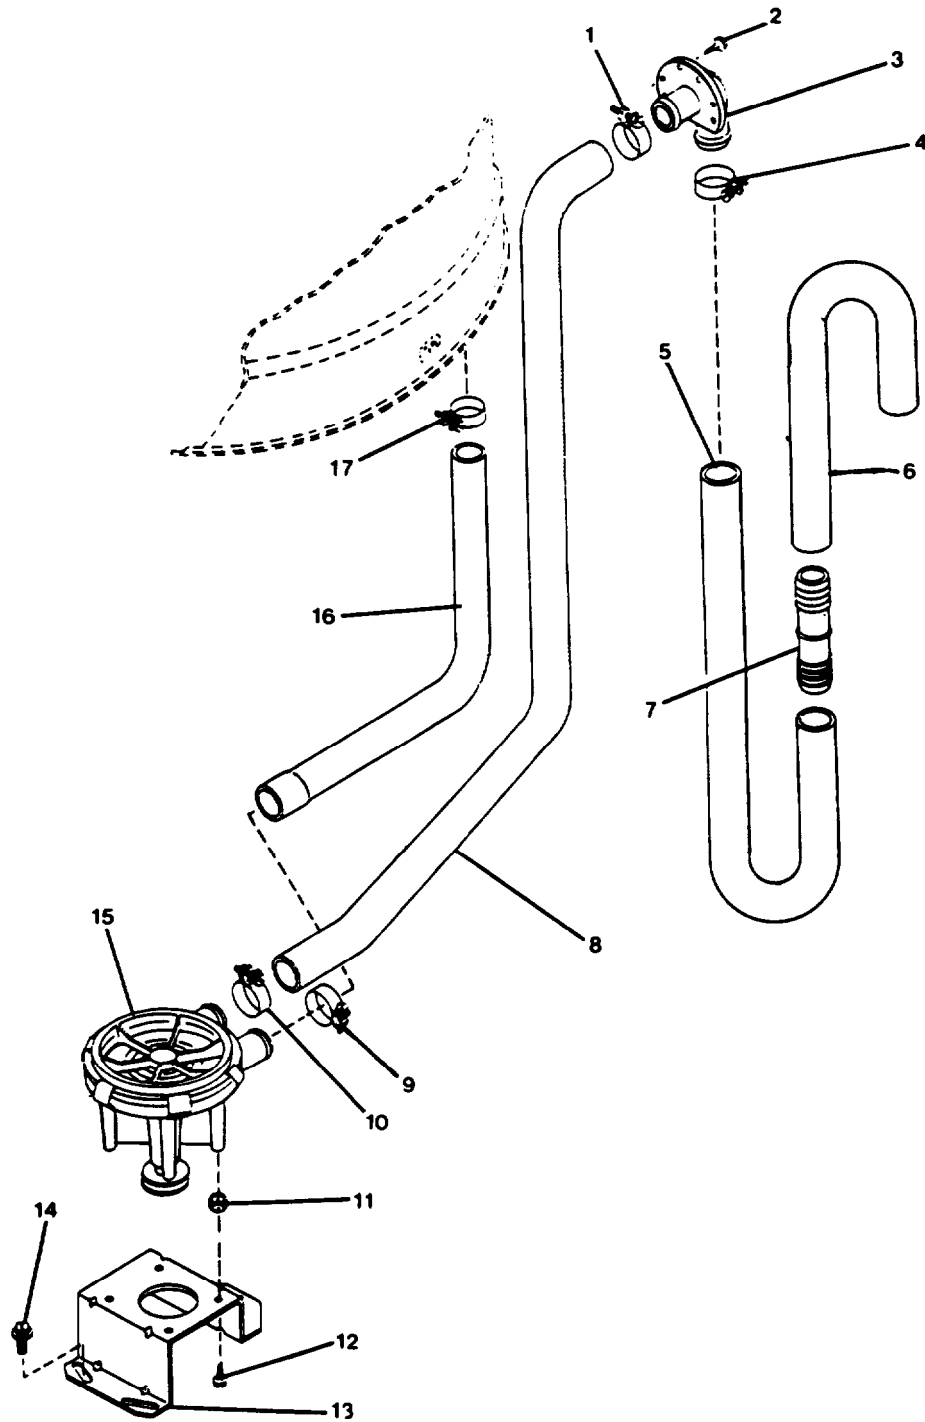

FIGURE 2-73. Washer Machine Pump and Hoses.
- u. Install centering spring (9) to notch on outer tub marked during removal.
- v. Install performed hose (16, FIGURE 2-73) with hose clamp (17, 9).
2-87. Replace Washer Machine Pump and Bores Group. (FIGURE 2-73)
- (1) Loosen two front pump mounting screws (14, FIGURE 2-73), then loosen rear mounting screw.
- (2) Shift front of pump mounting bracket (13) to right or left to obtain proper belt tension.